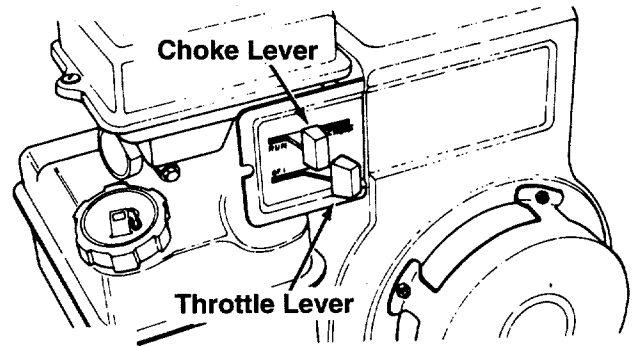

FIGURE 12.
1. Place throttle control lever on the engine in **FAST** position. See figure 12.